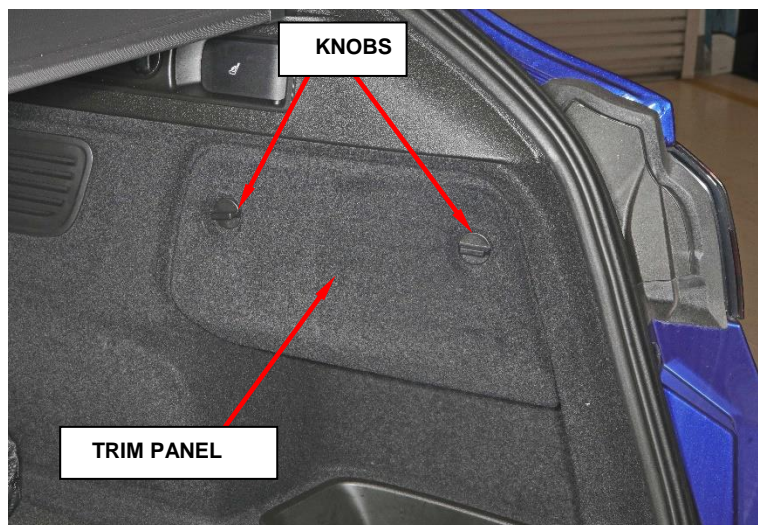

Figure 1 - Panel
3. Rotate the knobs $\frac{1}{4}$ turn on the right side trim panel and remove the panel (Figure 1).
13. Align the trim panel to the right side trim opening and rotate the knobs ¼ turn (Figure 1).